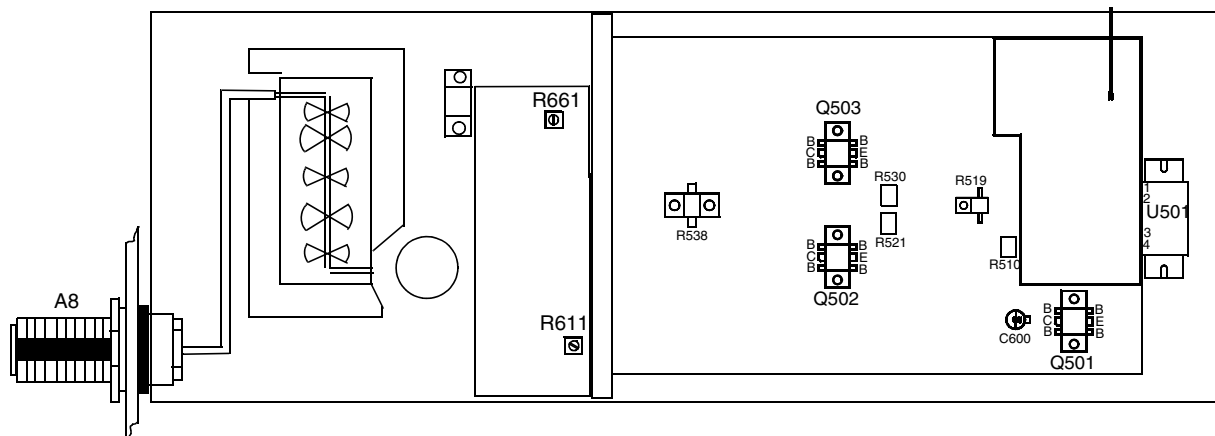

Figure 7-3 110W POWER AMPLIFIER ALIGNMENT POINTS
Refer to Figures 7-3 and 7-4 for component locations. Refer to Figure 7-8 for equipment needed and setup diagram. Select "PA" from the "TEST" menu in the Repeater Software.
1. Set R510, R521 and R530 on the PA board full **clockwise** before applying power to the PA (or PA deck and RFIB assembly), see Figure 7.3.
2. Set Forward Power Adjust R611 and Reflected Power Adjust R661 on the power detector board fully **counterclockwise** (see Figure 7.3).
7. Monitor the voltage on U501, pin 2 (power control voltage) and tune C600 for **minimum** voltage (see Figure 7.3).